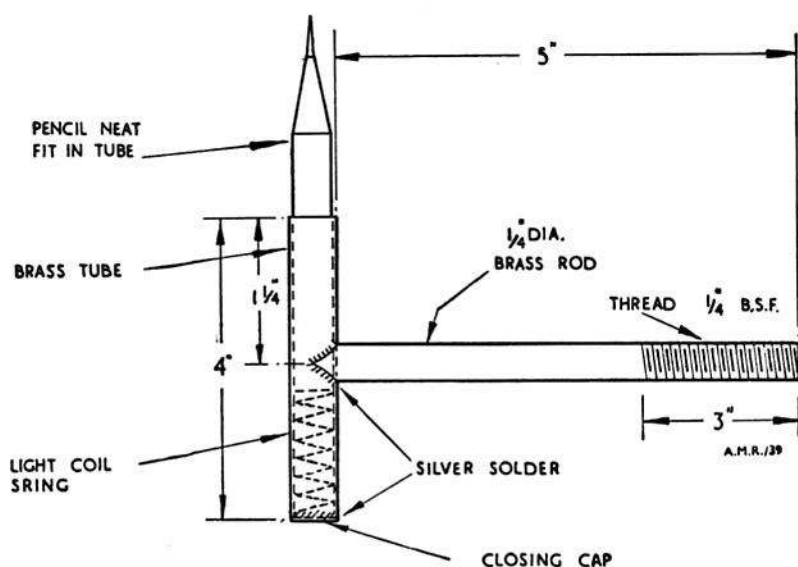

Fig. 14. Pencil holder
14. (1) The time-delay mechanism must operate in  $\frac{1}{2} \pm \frac{1}{16}$  sec., and the method of testing is as follows:—
- (a) Make a pencil holder as shown in *fig. 14*.